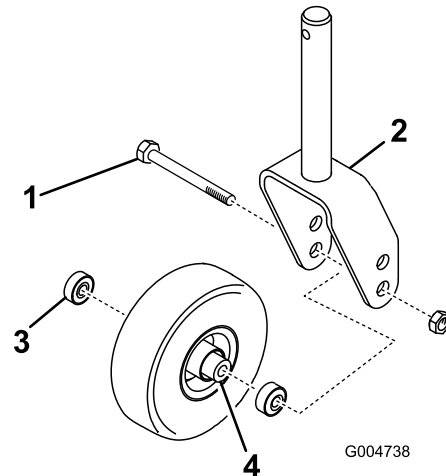
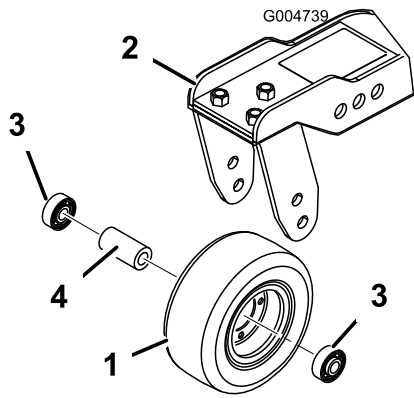

Figure 108
Figure 109
1. Remove the locknut from the bolt holding the castor wheel assembly between the castor fork (Figure 108) or the castor pivot arm (Figure 109). Grasp the castor wheel and slide the bolt out of the fork or pivot arm.
2. Remove the bearing from the wheel hub and allow the bearing spacer to fall out (Figure 108 and Figure 109). Remove the bearing from the opposite side of the wheel hub.